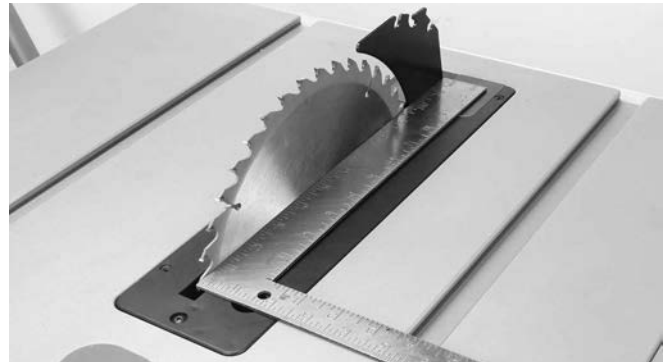

FIGURE 10
1. Using a straight edge (Fig.10), check if the riving knife is aligned with the blade.